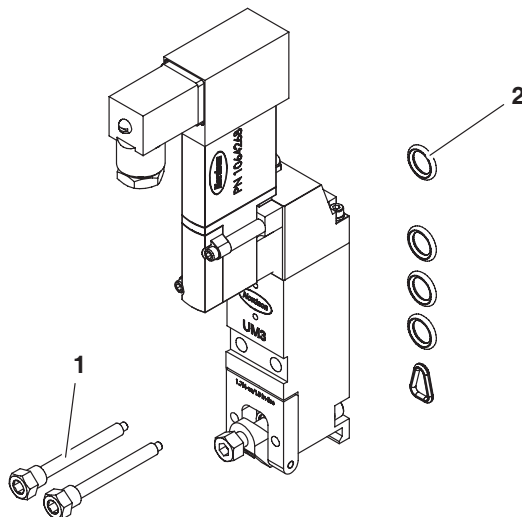

Figure 10 Removing a module
4. See Figure 10. Remove the module from the applicator and remove and discard the module O-rings (2). Refer to *Remove the Module* earlier in this section as needed.